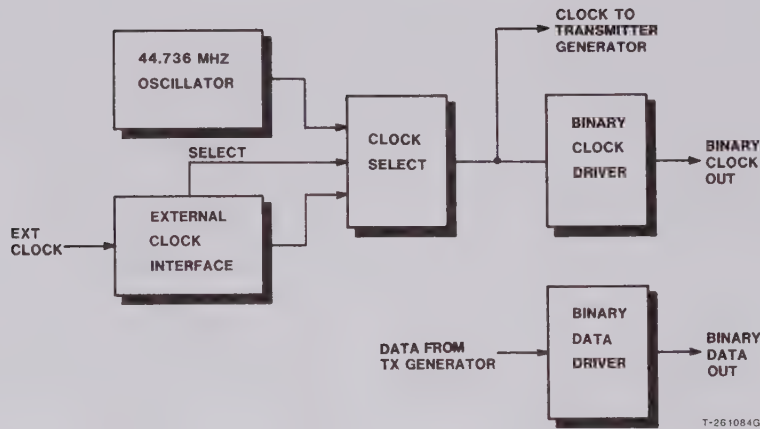

Fig. 7 - Oscillator Interface Board Functional Block Diagram
5.06 The Oscillator Interface board (see Fig. 7) contains a 44.736 MHz crystal-controlled oscillator that feeds its output through an ECL driver circuit to the Transmit Generator board. In addition, the Oscillator Interface board contains circuitry to detect an external clock signal input applied to the rear-panel EXT CLOCK INPUT BNC connector. This circuitry switches out the internal oscillator and switches in the external clock signal when an external signal is detected.